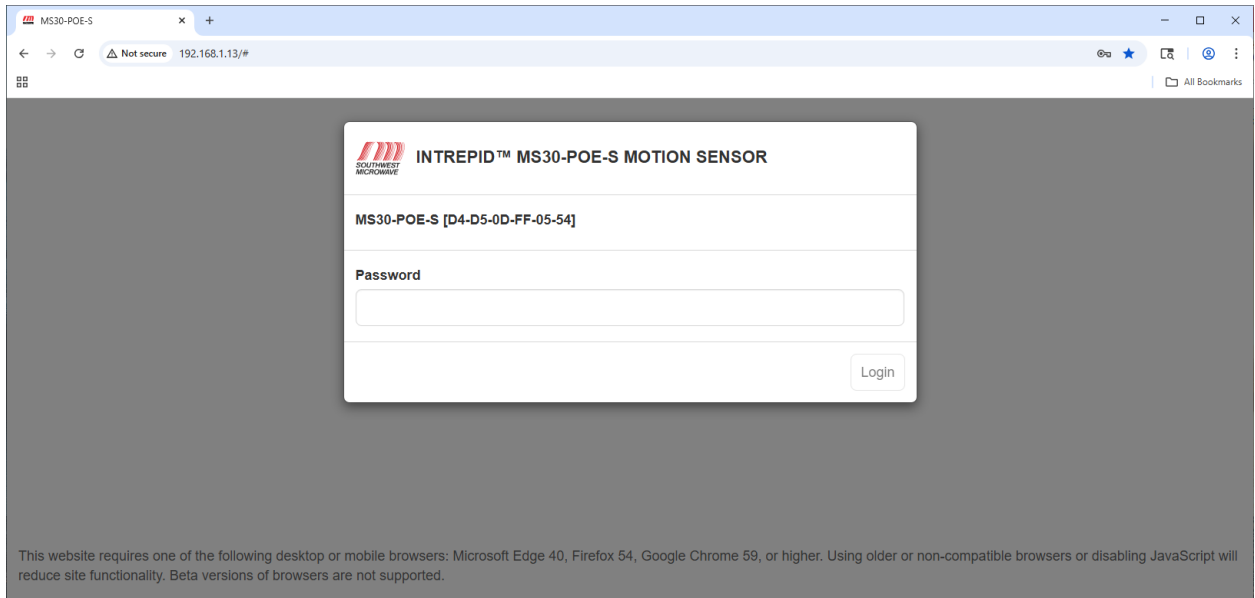

Figure 8.2 – Login Screen
8.2.2 Once the IP address has been entered and the application started, the INTREPID™ Model MS30-POE-S motion sensor password dialog box will open as shown in Figure 8.2.